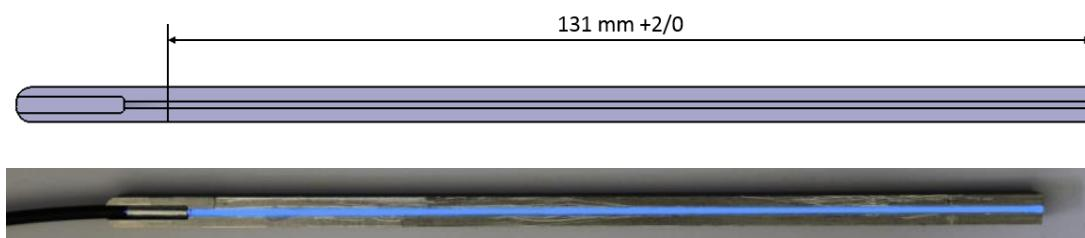

Figure 15 Scratching area; scratched light bar
- 3.1.3.5** The scratching of the fibre has to be done in a darkened room to be able to see directly the result by eye during light is injected to the fibre with the laser device. Before starting, a control of the height of the Vernier height gauge with respect to the middle of the fibre in the light bar is necessary. Scratch the fibre with a continuous movement so that light is coming out over the whole scratching area. In "Figure 15" the area and its delimitation is shown.